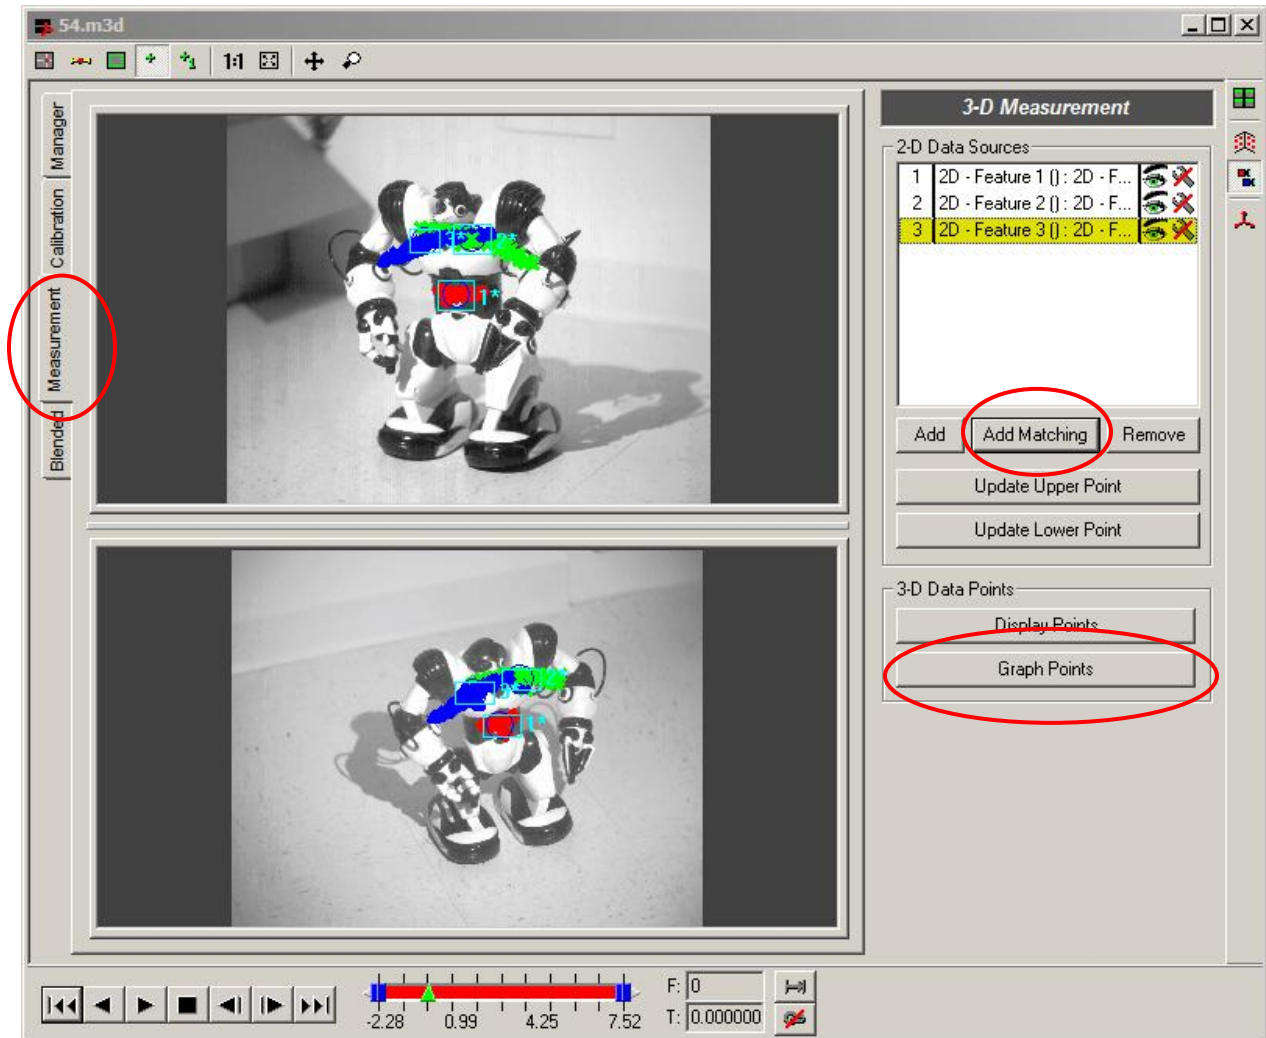

Figure 12. 3-D Measurement panel
7. Click the **Add Matching** button (shown circled in Figure 12) to populate the 2-D Data Sources list with the tracked features from *Robot1.avi* and *Robot2.avi*.